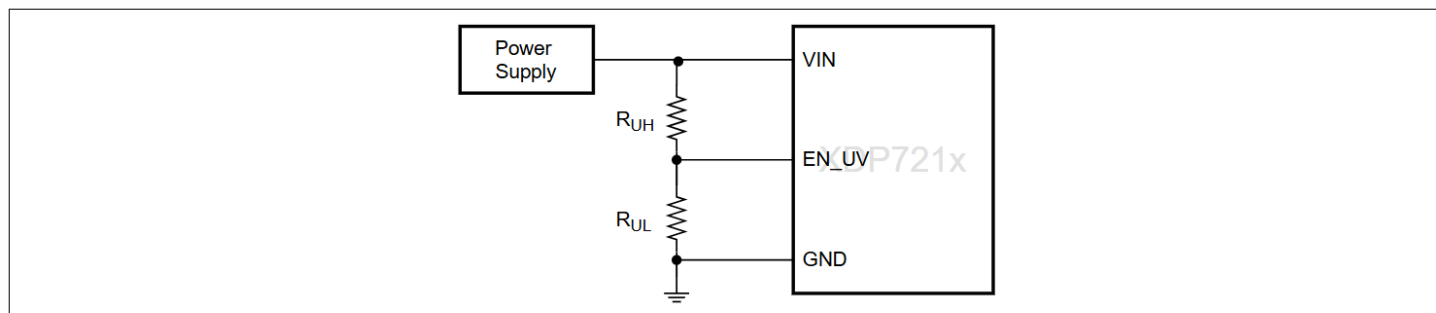

Figure 5 Input undervoltage protection
Generally, every system that uses an eFuse is designed for a specific operating voltage range. The XDP721 has an undervoltage protection for monitoring the minimum input voltage. When the EN_UV pin voltage falls to/below $V_{UV_LTH_P}$ (or $V_{UV_LTH_S}$), the input undervoltage protection (UV) is triggered. The equation below can be used to calculate the values of the resistor divider network at the EN_UV pin as shown in Figure 5.